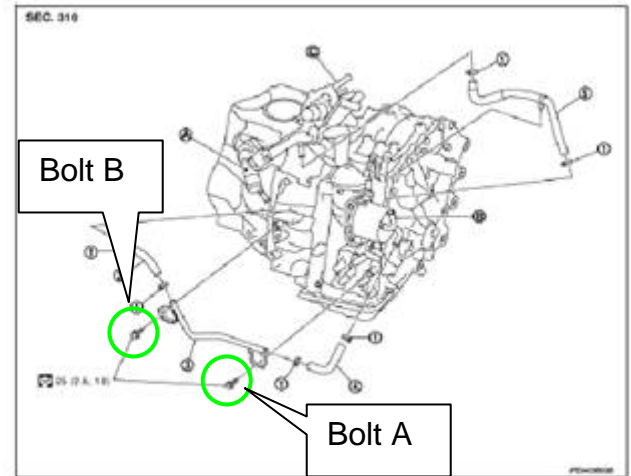

Figure 3
6. Remove "bolt A" and loosen "bolt B" for the Water Hose Bracket in Figure 3.